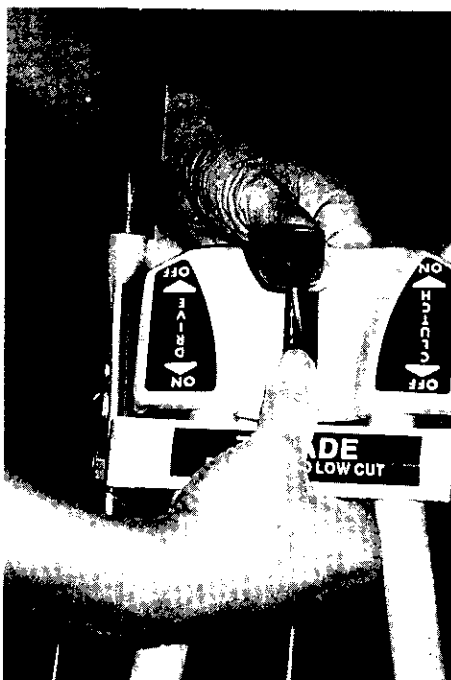

FIGURE 11
3. See Fig. 11: Line the complete knob and control body unit with the panel slot. Use both hands and push the control body unit into the panel slot until it locks in place.